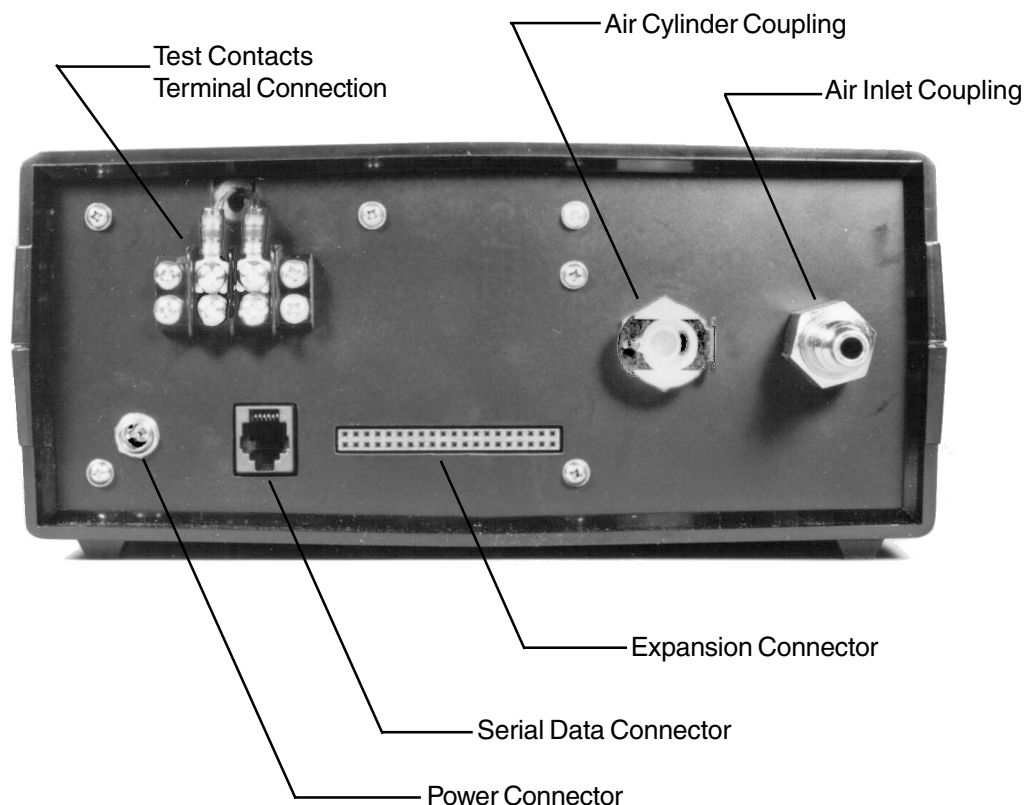
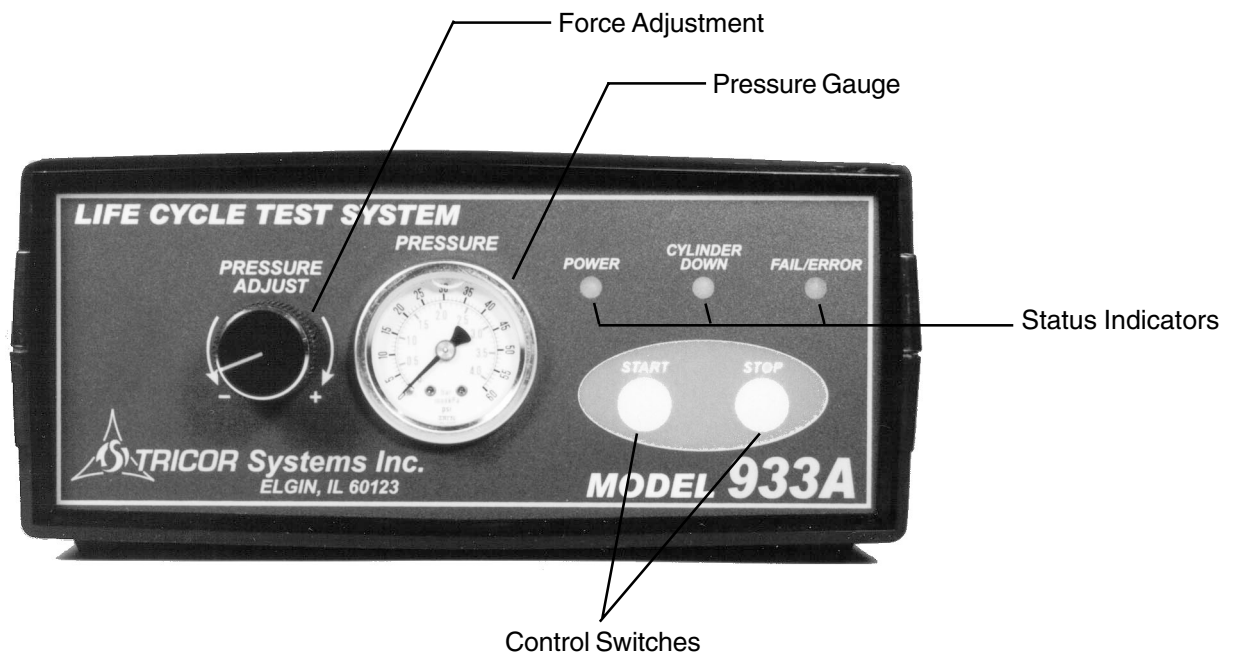

Figure 1.
Figure 3.
Connect a supply of air to the air inlet coupling on the back of the Control Unit (Figure 1). This fitting accepts a 1/4 NPT quick disconnect sleeve lock socket.
Connect the Test Head air hose connector to the air cylinder coupling on the back of the Control Unit (Figure 1). This connector can be released by depressing the metal thumb slide on the air cylinder coupling. This coupling/connector should be coupled together whenever power is applied to the Control Unit to prevent air from escaping. Adjust the pressure regulator on the front panel of the Control Unit for at least 40 psi on the gauge.
Connect the Power Module cable to the power connector on the back of the Control Unit (Figure 1). Plug the Power Module into a suitable power source receptacle. The Control Unit should now be powered with the power status indicator on the front of the Control Unit illuminated. See figure 3. The air cylinder should be pulled to the retracted position. The LCTS does not need a computer connected to operate. The Control Unit is shipped
To configure the LCTS to test your specific device, it must be connected to the personal computer (PC) running the software application provided. Attach the 9-pin adaptor to either end of the 20 foot serial cable with modular connectors (both provided). Attach the other modular connector of the serial data cable to the serial data connector (figure 1) on the back of the Control Unit. Plug the 9-pin adaptor into any active RS232 serial communications ports on your PC.